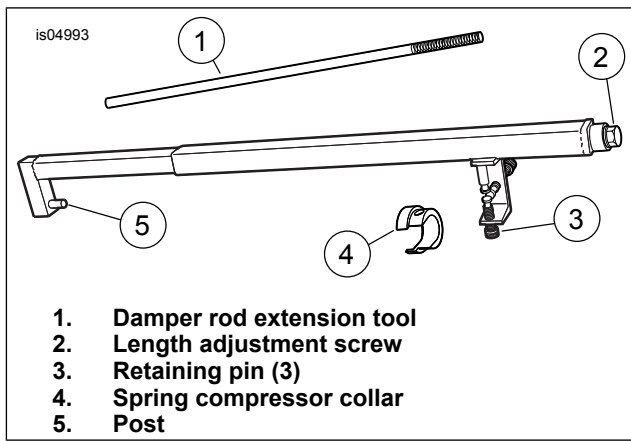
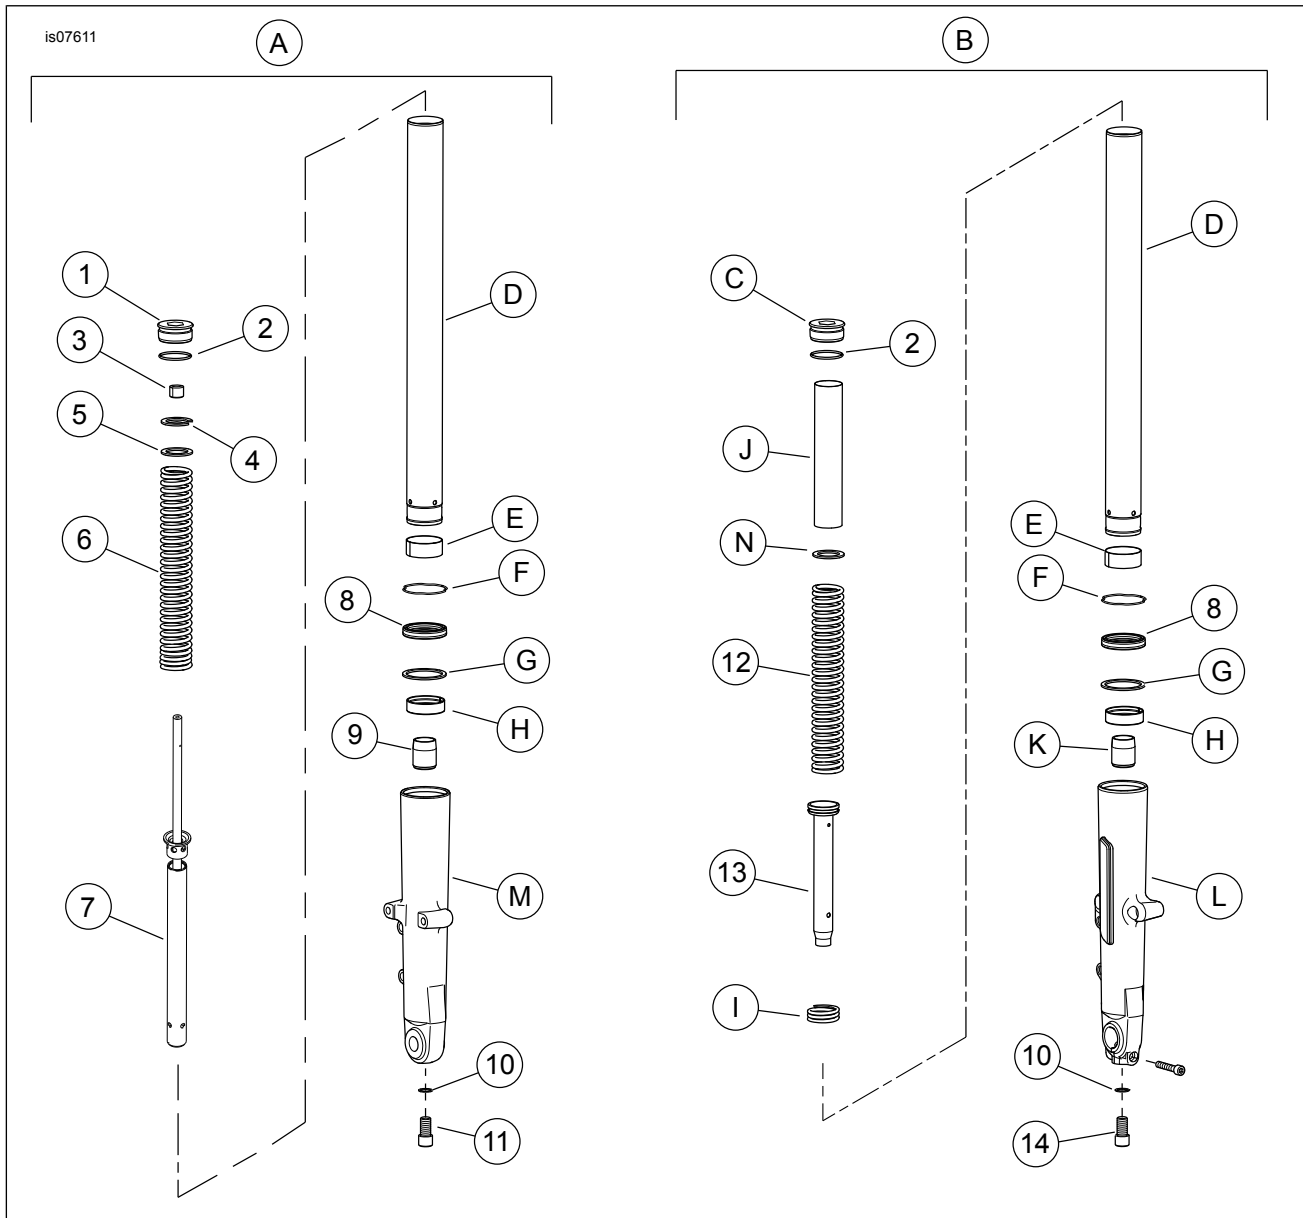

Figure 4. Fork Spring Compressing Tool (HD-45966)
Figure 7. Service Parts: Touring Cartridge Front Fork Kit
- b. See Figure 7. With the fork bolt upward, clamp fork tube (D), between rubber pads on inboard side of tool. Tighten knobs until fork tube is securely held.
17. See Figure 4. Install fork spring compressing tool:
- a. Clamp tool in vise in a vertical position with length adjustment screw (2) upward.
- b. Place hole at bottom of fork slider over post (5) at bottom end of tool.
- c. Place flat washer (Item 5, Figure 7), over the damper rod extension tool and on top of spring. Place spring seat (Item 4, Figure 7), concave side up, on top of the flat washer. With the smaller OD upward, place spring compressor collar (item 4, Figure 4) over spring seat and flat washer.
- d. Adjust tool as necessary until three retaining pins (3) engage blind holes in spring compressor collar (4). Turn length adjustment screw counterclockwise to lengthen and clockwise to shorten.
20. See Figure 7. Install **new** jamnut (3) with non-threaded end over the damper rod first. Thread onto damper rod until it bottoms out on the shoulder.